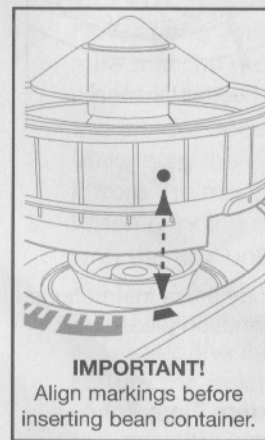

Fig. 2
5. Insert the bean container into the machine (Fig. 2).